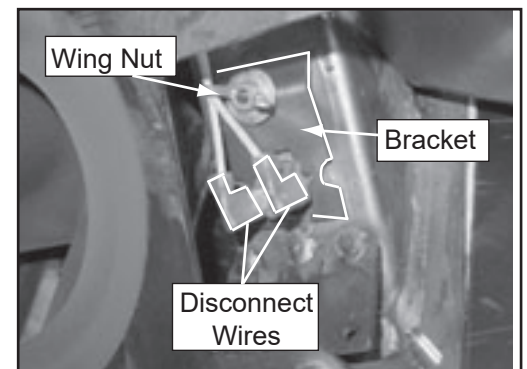

Figure 28.3
- h. Disconnect wires from snap disc #2 (**Figure 28.3**).